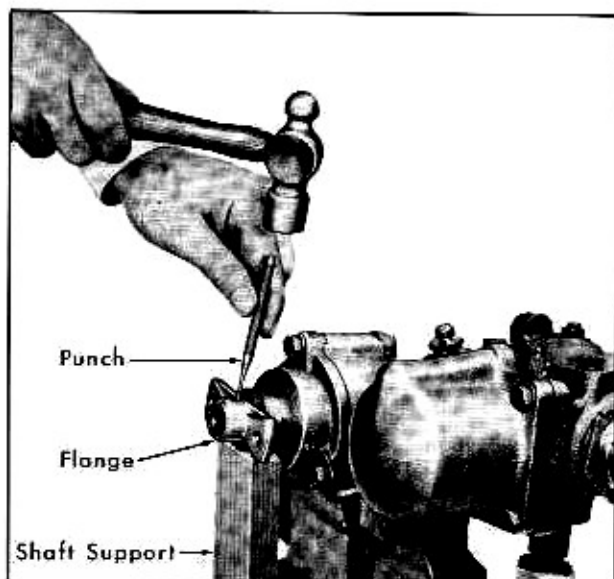

Fig. 7-4 Removing Dowel Pin
1. Remove coupling flange to steering shaft dowel pin, supporting flange from below to prevent shock damage to thrust bearings, Fig. 7-4.